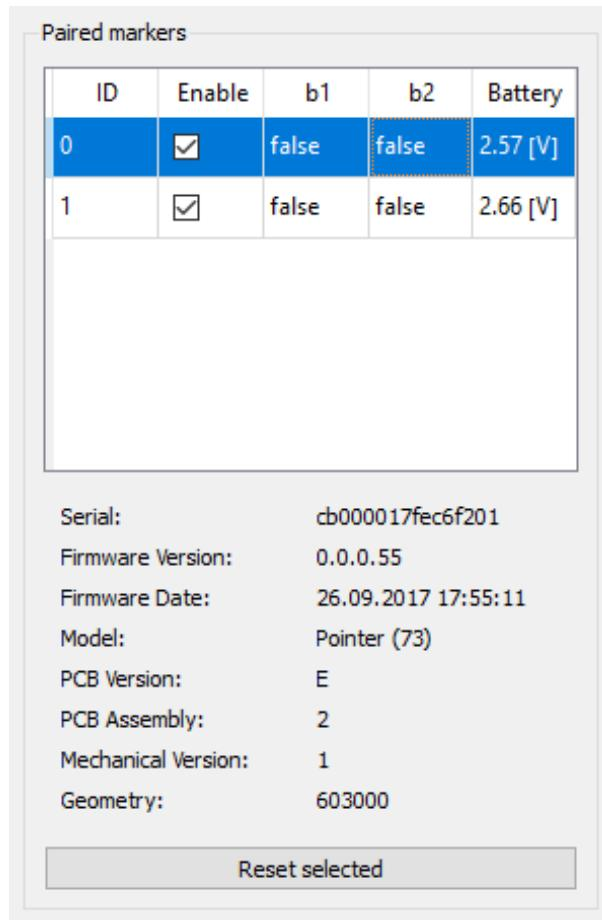

Figure 8.2: The Paired markers widget lists all the paired wireless markers and display their statuses.
- **Paired markers** contains a table (See Figure 8.2) where paired *markers* are listed. The statuses of the buttons of the paired *markers* as well as the battery state are displayed. When a field is in RED, it means that the value has not been updated recently (2 second for the battery, 50ms for the buttons). The cause is most probably the *marker* being out of reach of the infrared transmitter and receptor of the spryTrack. Letting the mouse cursor on one of the battery field in the table will display a tooltip indicating the maximum and minimum voltages for the battery.